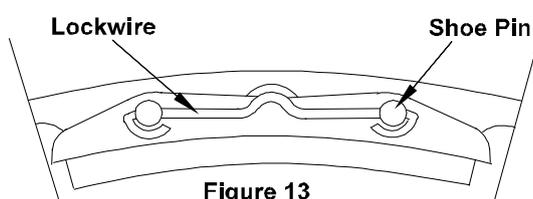

Figure 13
- 4.5.4 Slide lockwires through the holes of the shoe pins making sure that the scallop or bend in the wire points away from the friction material. Each lockwire should go through two shoe pins, securing one friction shoe. See Figure 13.
- 4.5.5 Center the lockwire so that equal lengths extend from each shoe pin. Bend each end of wire inward toward the friction material and around the shoe pin, as in Figure 13.